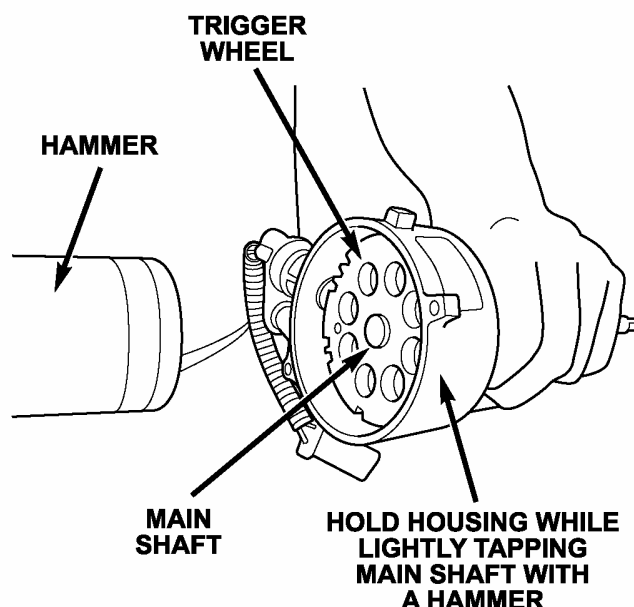

Figure 8
- a. If the clearance is **insufficient (tight)**, hold the housing in your hand and **lightly** tap the main shaft with a hammer where it protrudes through the trigger wheel (Figure 8).